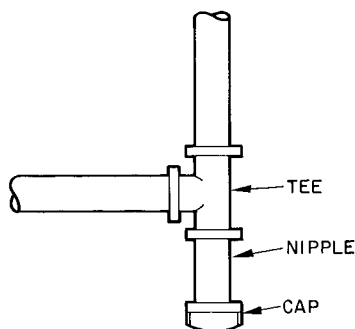

Fig. 7 — Sediment Trap
4. Install a sediment trap in riser leading to the heating section. See Fig. 7. This drip leg functions as a trap for dirt and condensate. Install trap where condensate cannot freeze. Install this sediment trap by connecting a piping tee to riser leading to heating section, so that straight-thru section of tee is vertical. Then, connect capped nipple into lower end of tee. Extend capped nipple below level of gas controls.